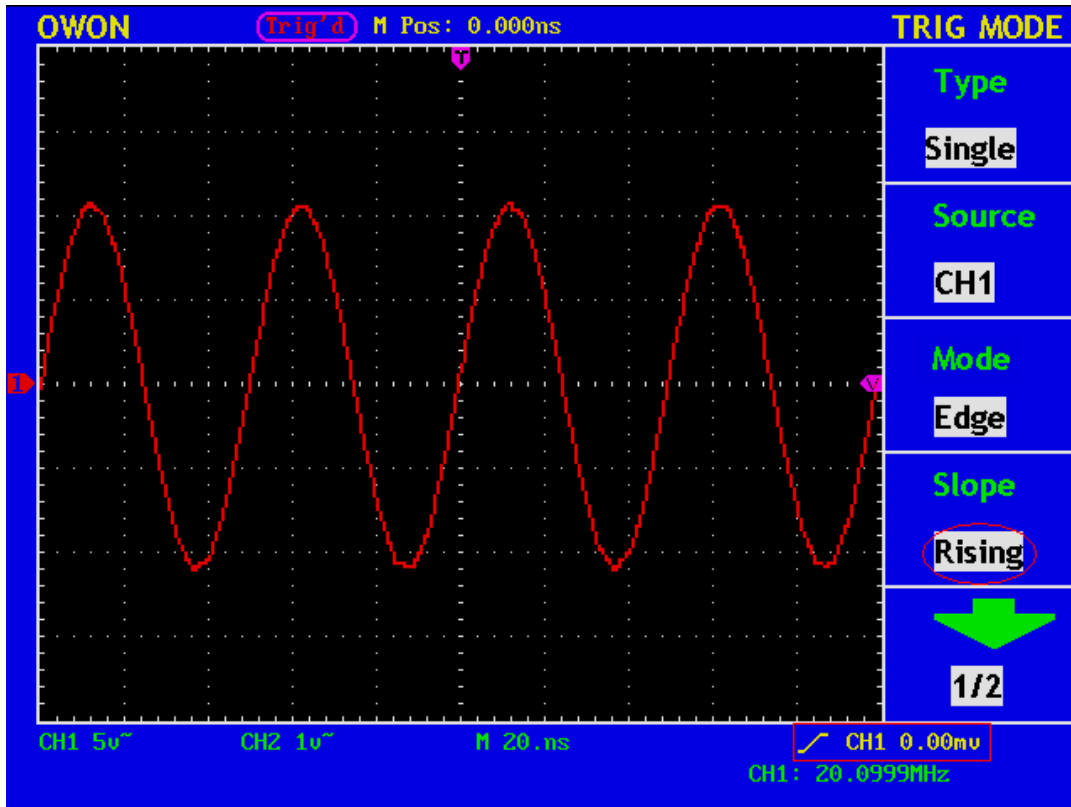

Fig. 45 Edge trigger (Rising Wave,the first menu)
- 5、 Press “F4” to choose slope as “Rising”. Display as Fig.45